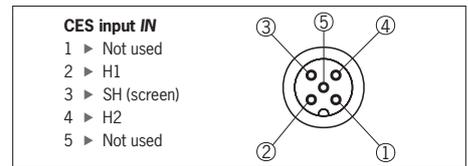

Figure 1: Socket assignment (view of connection side)
- ▶ Connect the CES read heads to the CES inputs IN (M12 socket 5-pin) (see Figure 1)